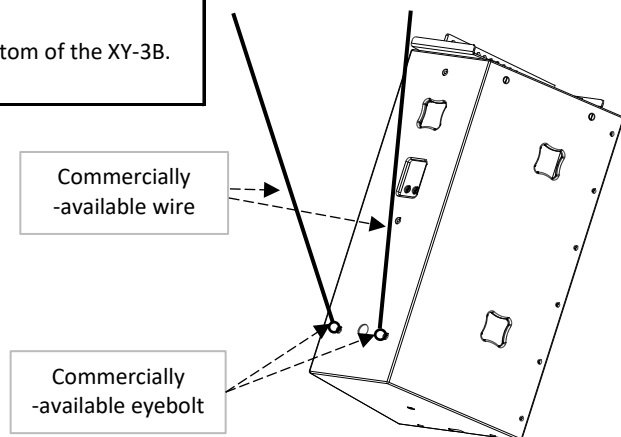

Fig.3-2-3-H
- (3) Ensure the commercially-available eyebolt are secured to mounting point on the rear top of the enclosure to suspend it with wire as a secondary safety feature. (Fig.3-2-3-I)